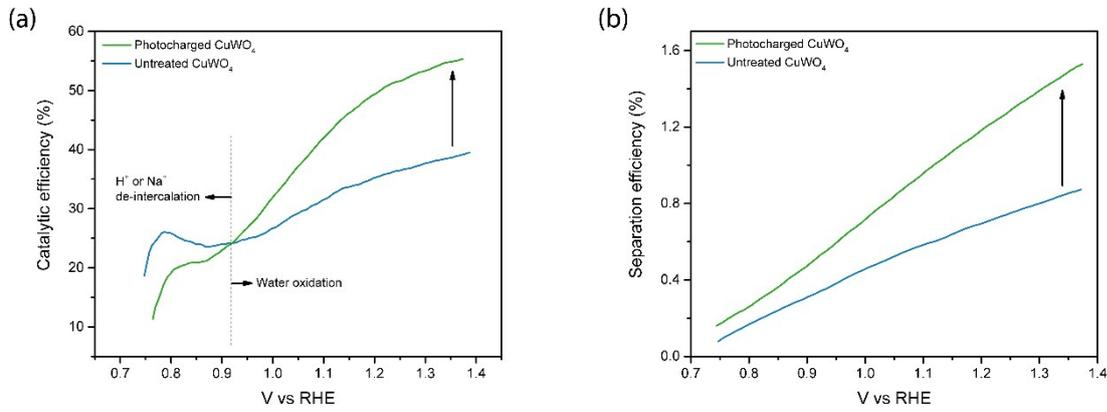

Figure S4 : (a) Catalytic efficiency of UT and PC – CuWO₄ (b) Separation efficiency of UT and PC – CuWO₄
The catalytic and separation efficiencies, as in figure S4 (a-b), were calculated as per the method recommended by Dotan et al. (1),